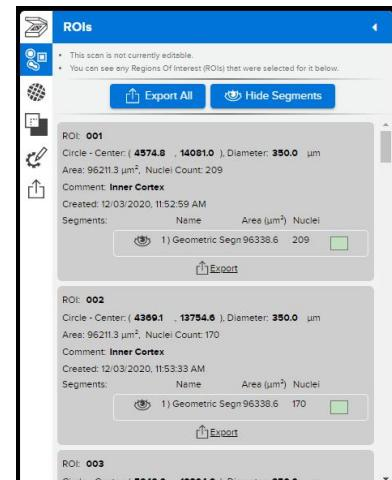

Figure 41: Scan Workspace ROIs
8. Open the **ROIs** menu (see Figure 41) to see the transferred ROIs. You may adjust these or add additional ROIs.